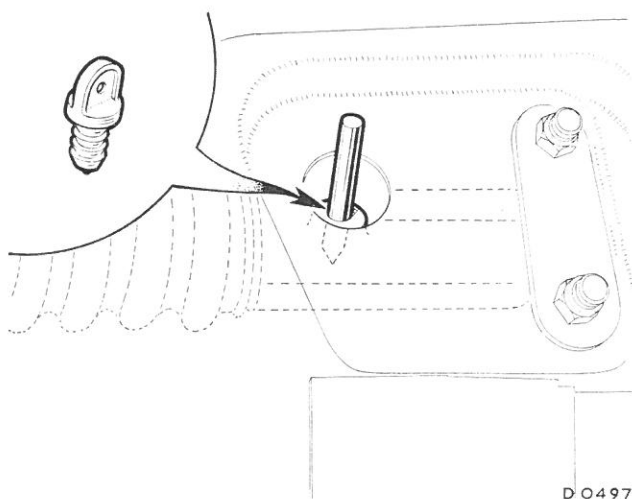

Fig. J.1
- (23) *1968 models.* Pull out the plastic plug from the rack casing and insert a locator pin, i.e. a $\frac{1}{4}$ in. (6 mm.) diameter bolt approximately 2 in. (50 mm.) long into the hole. Centralize the rack until the locator pin fully engages in the rack shaft to lock the centralized assembly in position (see Fig. J.1).